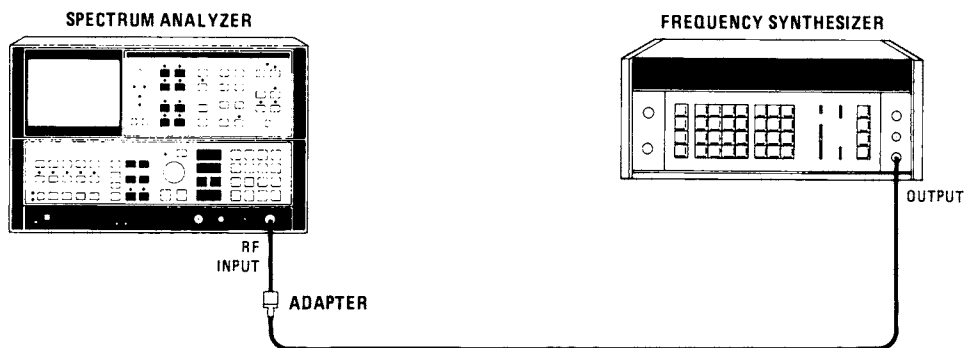

Figure 4-19. Frequency Response Test Setup (100 kHz to 10 MHz)
20. Connect equipment as shown in Figure 4-19.